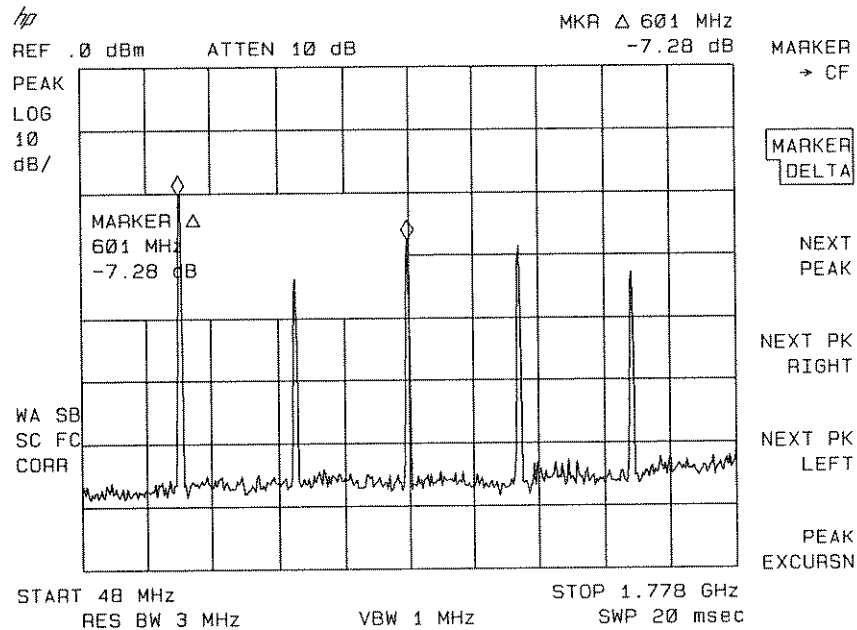

Figure 6-14. Using the Delta Meas Function
5. The **DELTA MEAS** softkey also finds and displays the frequency and amplitude difference between the two highest-amplitude signals. To use this automatic function, first remove the local oscillator (LO) signal from the display by pressing **(FREQUENCY)**, **START FREQ**, and turning the knob until the LO signal at 0 Hz is off the screen. Press **(MEAS/USER)**, **MORE 1 of 2**, **DELTA MEAS**. See Figure 6-14.